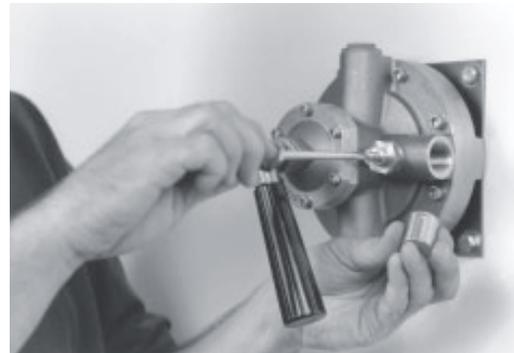

Figure 2.
- Figure 2. The cold water regulator is supplied as standard with a locking cap, which can be removed for "fine tune" mode. Locking cap is secured with a set screw and requires a 3/32" hex key for removal.